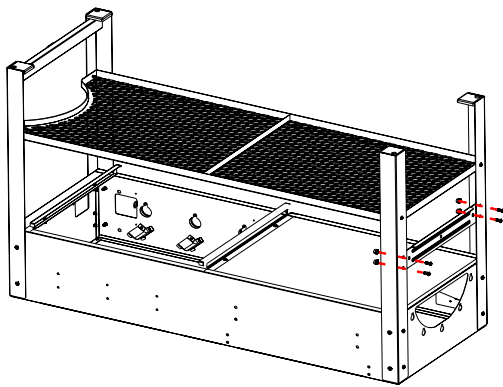

Fig. 5
Refer to Fig. 5 and Place the Fire Box Support Brace **BETWEEN** the Legs on the **RIGHT** side of the Cabinet, so that the LEDGE is at the TOP and facing through the Legs. Fasten to **BOTH** legs with (2) M6x15 bolts and (2) M6 KEPS nuts on each Leg.